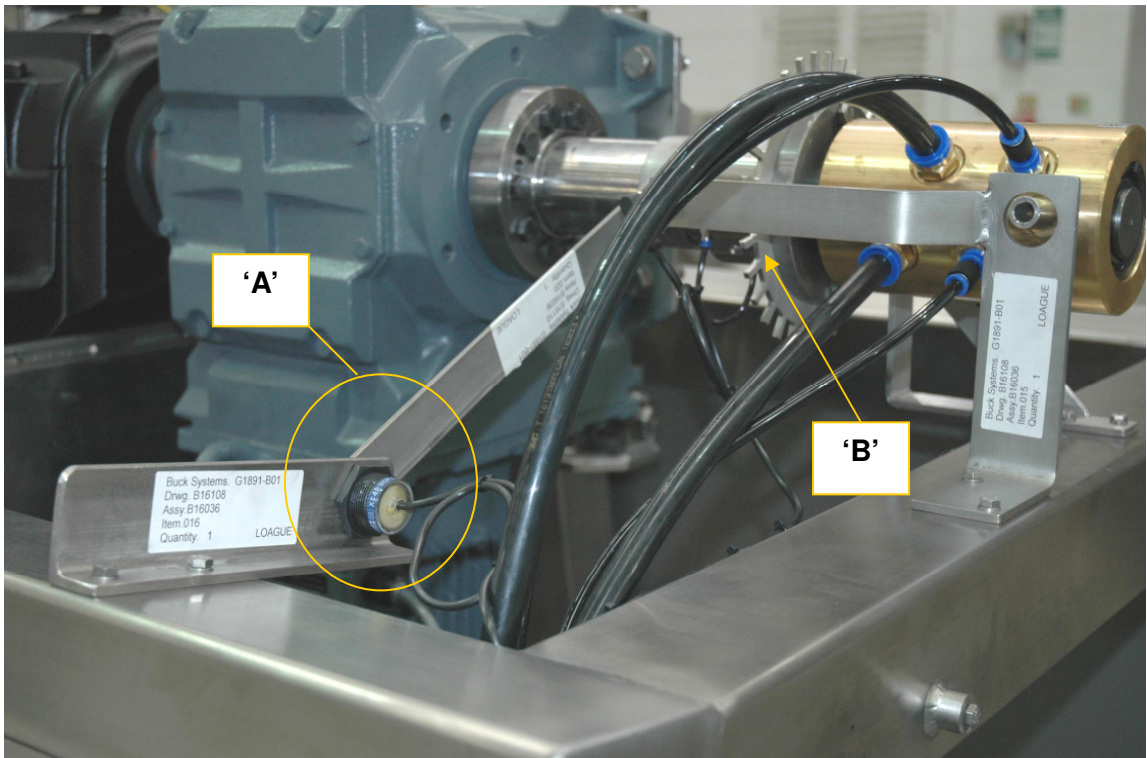

Fig 5 - Blender – 'A' Cage position arm and 'B' indexing wheel/sensor
- Cage Upright position is detected by a base-frame-mounted sensor, which senses the end of a long arm that rotates with the drive shaft (Fig 5).
- Number of rotations is detected by a base-frame mounted sensor that senses each passage of a target disc mounted on the drive shaft (Fig 5).